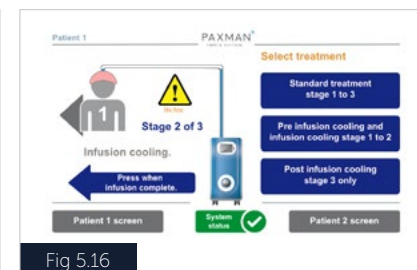

Fig 5.16
- If the cap is not connected within 8 minutes a no flow warning symbol  will appear (Fig 5.16), and flash between connect cap and no flow and a buzzer will sound to alert the user or patient.